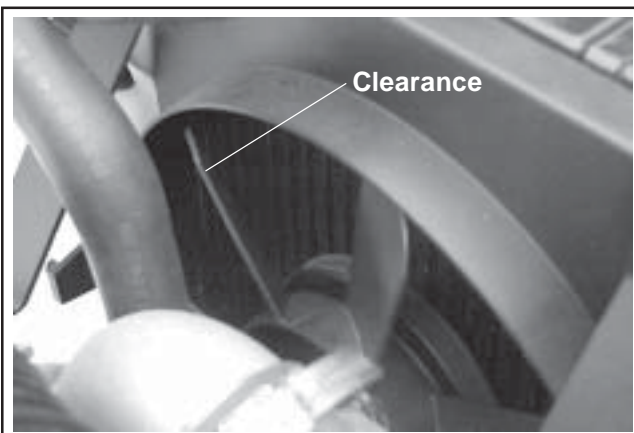

Figure 11-115. Fan Clearance Checking.
6. Check for adequate clearance between fan and shroud. Adjust the lower radiator supports as required, then torque the four mounting screws to  $9.9 \text{ N}\cdot\text{m}$  (88 in. lb.). See Figures 11-115 and 11-116.